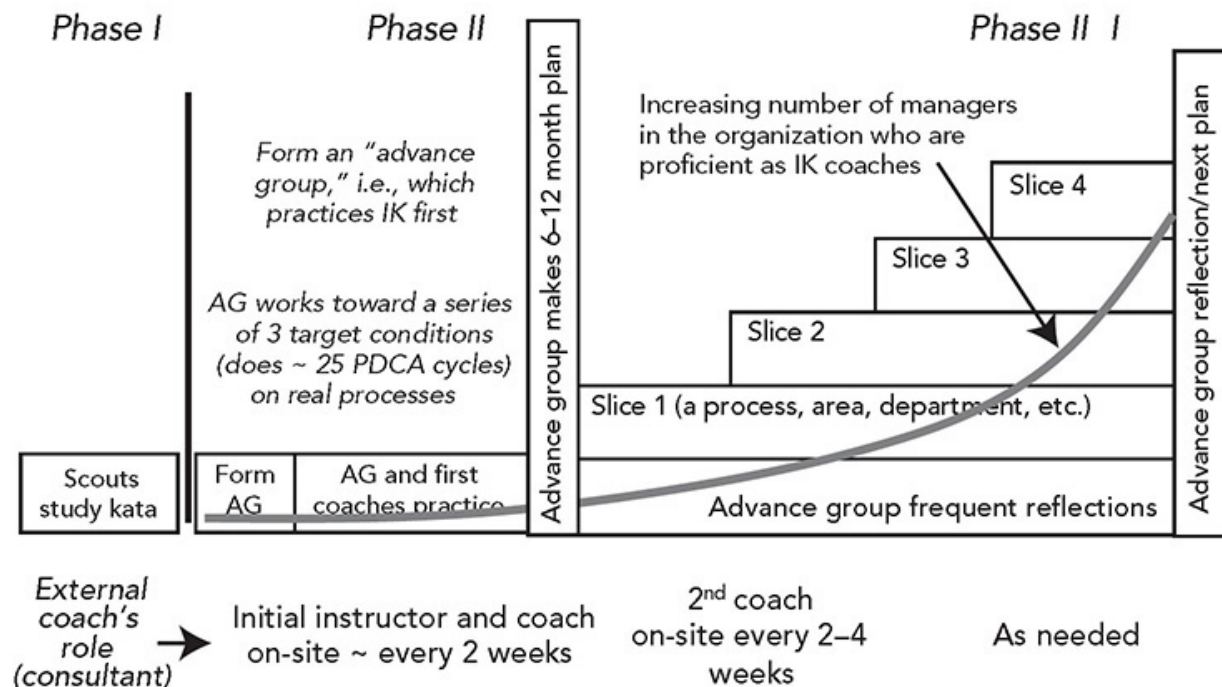

Figure C.6 One model for deploying practice.
When we think of a model line, we often think of the challenge statement as a big financial result, but the more difficult challenge is developing the capability of people. In fact, process improvement and people development go hand in hand. In Rother's model there is a key role for managers as coaches who develop scientific thinkers who practice the improvement kata. The chicken-and-egg problem is that those managers need to be coaches, but first they have to be learners to build their competencies and know-how by taking on a business challenge and practicing the improvement kata pattern to work scientifically toward it. We saw an example of this in the way Dallis was trained when he entered Toyota (see Principle 9 on leadership). The constraint at first is that there are few or no qualified coaches inside the organization. The ideal state is to have all coaching done internally with managers coaching their own teams. Figure C.6 provides one example of how this might work following the kata model. The job of the "advance group" (AG) of leaders is to monitor and guide the process (PDCA). First these leaders scout out what the kata is to see if they are interested, and then they practice it themselves with an experienced (possibly external) coach. With that experience they are then in a position to develop a plan for the next